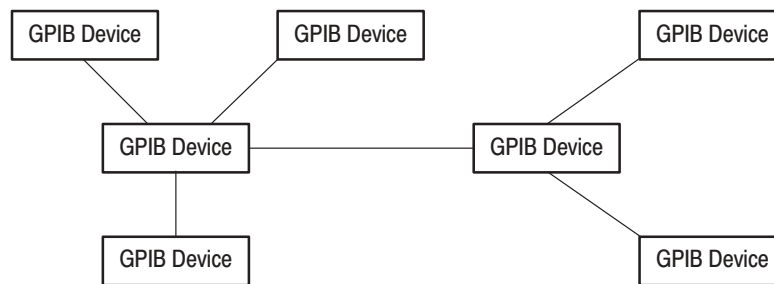

Figure 1–7: Typical GPIB network configurations
- Connect the devices on the network in a star or linear configuration, as shown in Figure 1–7. Do not use loop or parallel configurations.
4. Move the cursor to the **GPIB Configuration** field using the up/down (↑/↓) arrow buttons, then select **Talk/Listen** using either the general purpose knob or the left/right (←/→) arrow buttons. See Figure 1–8 on page 1–7.